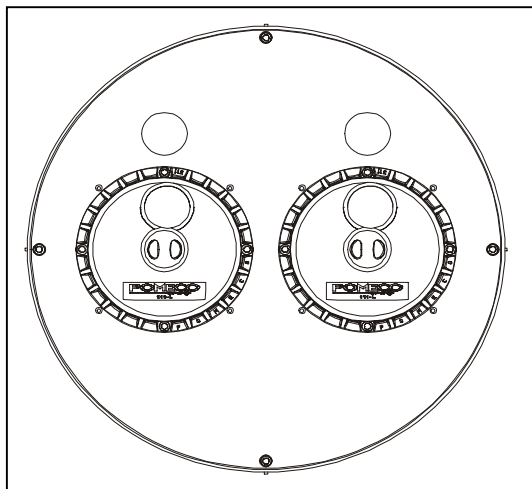

Figure 6
20. Install the spill bucket covers. (See Figure 6.)